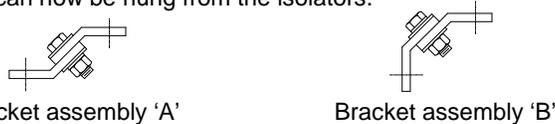

Figure 1. Bracket assemblies
**Installation.** The brackets can be assembled in two different configurations, depending upon airflow direction and motor location desired. See Figures 1 and 2. Determine which arrangement is desired and assemble the brackets as shown in Figure 1, using the 3/8" hardware supplied. The brackets